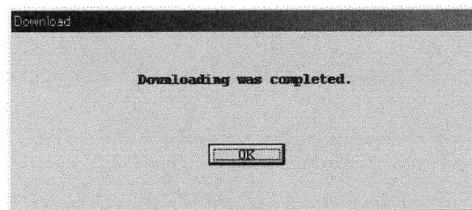

Fig.128
- ⑦ When downloading is completed, a message box like the one shown in Fig. 128 appears. Click on "OK".